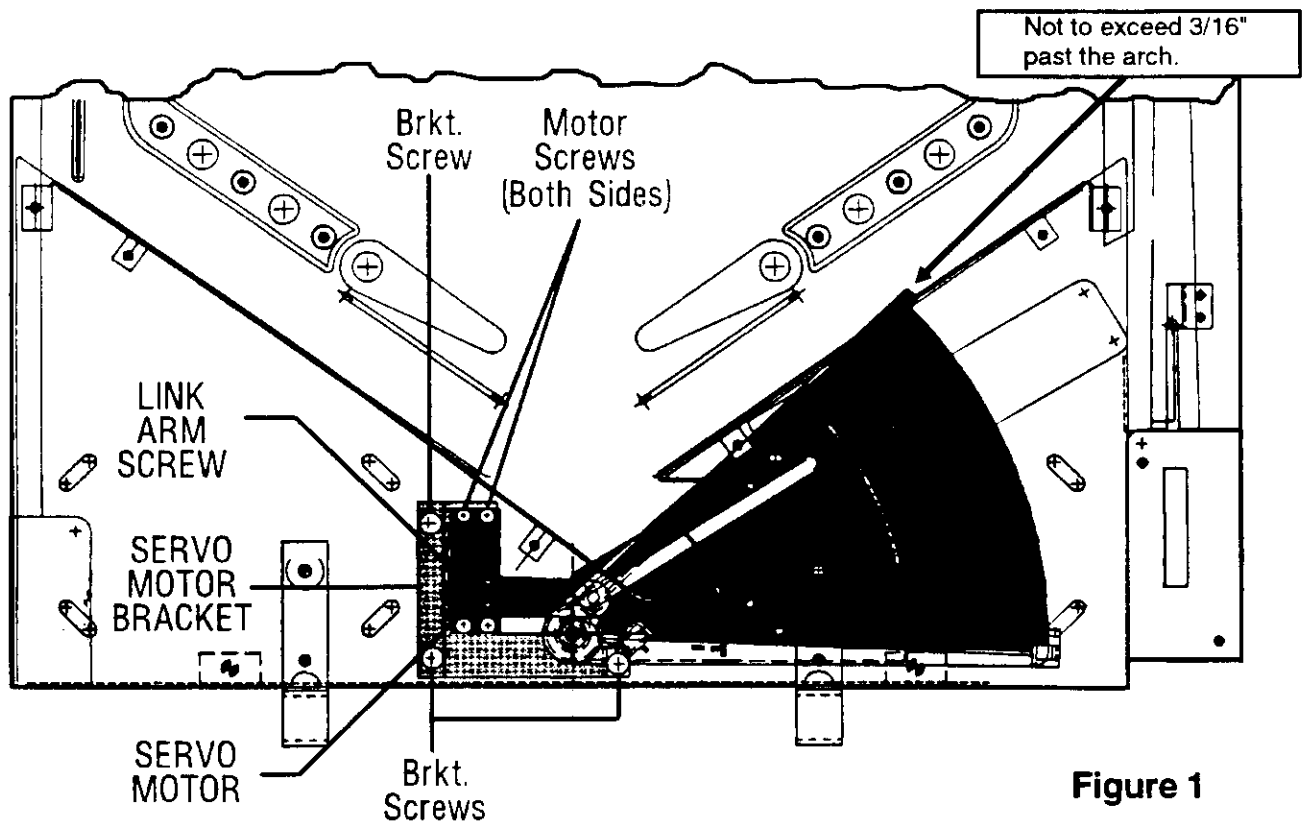
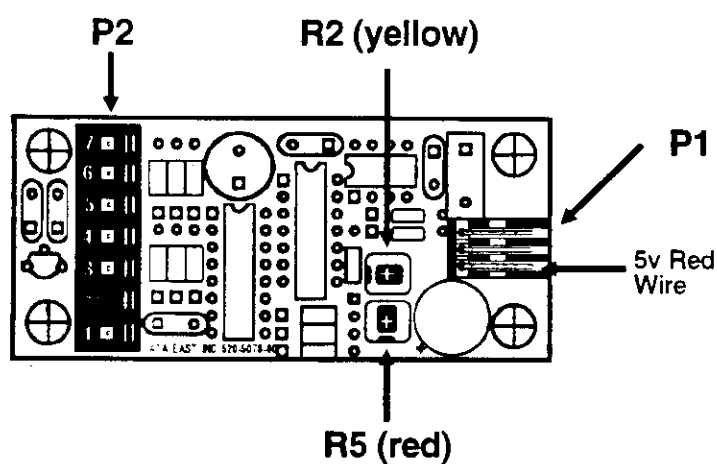

Figure 1
Figure 4
(See Figures 4 & 5)
(See Figure 1)
(See Figures 1 & 5)
- E. ONCE IN PLAYFIELD RECHECK ALIGNMENT, USE DIAGNOSTIC ARCH TEST IN THE DIAGNOSTIC PROGRAM. PRESS START AND HOLD BUTTON TO OPEN BLINDER. ENSURE BLINDER STILL HOLDS OPEN ALIGNMENT. (ALSO ENSURE THE LEFT BLINDER BLADE DOES NOT HIT THE WIRE FORM UNDER THE ARCH (See Figure 1)). IF NOT ALIGNED CORRECTLY OR IT HITS THE WIRE FORM, ADJUST THE YELLOW POT R2 (See Figure 4).
- F. RELEASE START BUTTON. THE BLINDERS WILL CLOSE. AT THIS POINT, ENSURE BLINDER CLOSES AND DOES NOT PROTRUDE MORE THAN 3/16" BEYOND ARCH WALL (See Fig. 1) PROCEED TO STEP 4.
- A. RELEASE START BUTTON. THE BLINDERS WILL CLOSE. AT THIS POINT, ENSURE BLINDER CLOSES AND DOES NOT PROTRUDE MORE THAN 3/16" BEYOND ARCH WALL (See Fig. 1) PROCEED TO STEP 4.
- B. TURN RED POT (See Figure 4) TO ADJUST THE CLOSURE SO THE BOTTOM BLINDER DOES NOT EXTEND PAST THE RIGHT STEEL FLAT RAIL. (See Figure 1)